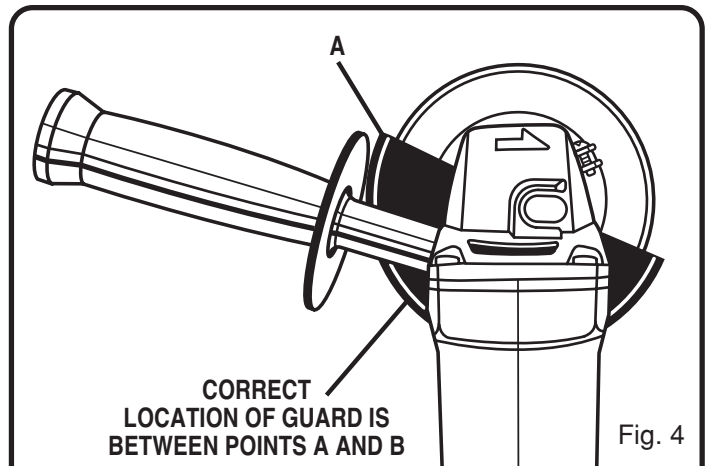
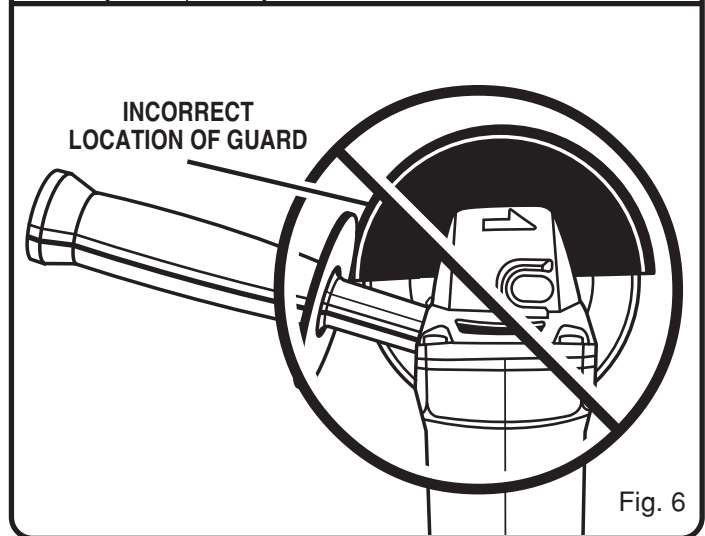

Fig. 4
Fig. 6
Never place the guard so that it is on front of the grinder as shown in figure 6. This could result in serious injury because sparks and loose particles thrown from the grinding wheel would be directed toward the operator. Always place the guard in the correct location as shown in figures 4 and 5.
- If you are making adjustments, rotate the guard to its correct position as shown in figures 4, 5, and 9, then retighten clamp screw securely. **Never use your grinder without the guard in place and properly adjusted.** See Figures 4 and 5.